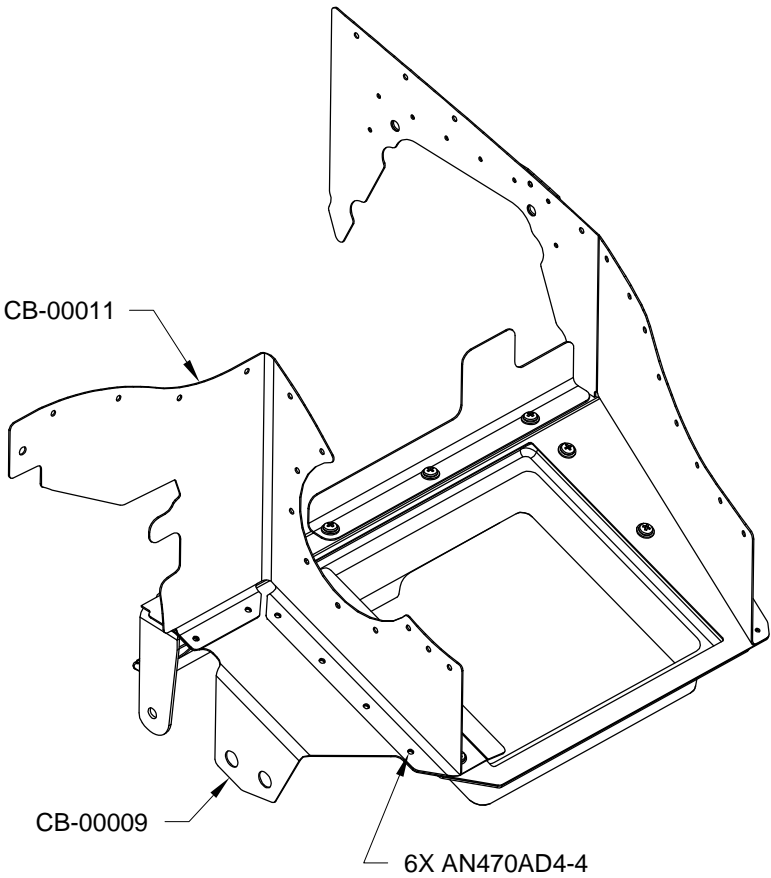

FIGURE 3: RIVET BAFFLE
Step 4: Rivet the CB-00011 Left Fwd Baffle to the CB-00009 Left Air Ramp as shown in Figure 3.